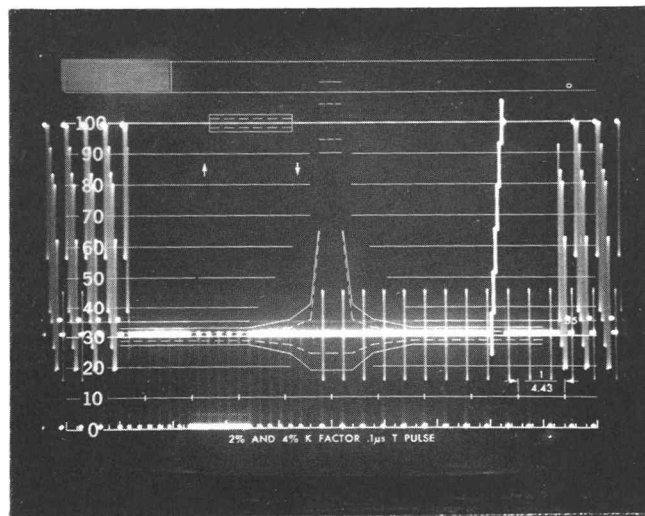

Fig. 2-9. Field blanking interval showing a VITS staircase on line 278.
17. Change the Magnifier switch on the RM529 to X20 and position the display with the Horizontal Position control so that the field blanking interval is centered on the screen. Change the Type 142 FULL FIELD switch to the up position and the VITS FIELD switch to the 2 and 4 (down) position. Note the VITS staircase signal appearing during the vertical blanking interval. (See Fig. 2-9.)